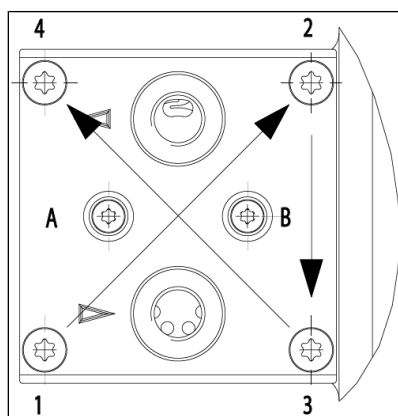

Fig.6 Tightening cap head screws
1. Remove the valve plates/seals (12) from the intermediate plate (6).
2. Check the valve seats, intermediate plate (6) and head plate (5) for soiling and damage. Clean the parts if necessary.
4. Insert the new valve plates/seals (12) in the valve seats of the intermediate plates (6).
5. Place the head plate (5) on the intermediate plate according to the felt-tip pen marking.
6. Check the centering of the head plate (5) by means of a slight lateral movement.
7. Connect head plate (5) and intermediate plate (6). To do this, screw in screws (3; Fig. 6: A + B) with disk spring (11) and shim rings (10) until the screw head is seated flat, i.e., until the first resistance is encountered. Apply a small amount of thread locker (Loctite 222 or comparable product) to the threads of the screws.
2. Place the pressure plate (4) on the head plate according to the felt-tip pen marking.
3. Screw in the screws (1) with disk spring (11) and slightly tighten them crosswise in the order 1-2-3-4 (see Fig. 6) with 1 Nm.
5. Tighten the screws (1) with disk spring (11) crosswise in the order 1-2-3-4 (see Fig. 6). Tightening torque: 2.1 Nm.
6. Then tighten the screws (3; Fig. 6: A + B) another quarter turn (tightening torque: 30 Ncm) and mount the screw covers (2).